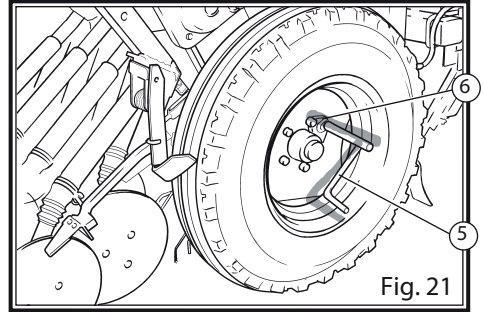

Fig. 21
**THIRD:** Raise the seed drill using the tractor until the wheels can turn freely. Place the calibration crank (5, fig. 21) in the bolt on right wheel (6, fig. 21) and turn it clockwise until the fertilizer starts to fall onto the calibration cup . At this moment, stop turning, remove this fertilizer and start turning the crank again to perform the real turns of the test as indicated in the table below: